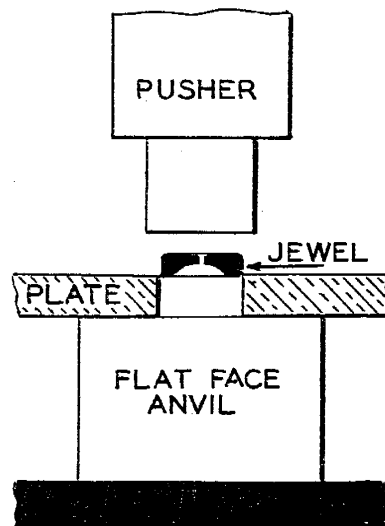

Fig. 14-13
13. Place jewel in reamed-out hole, oil cup down, figure 14-13.